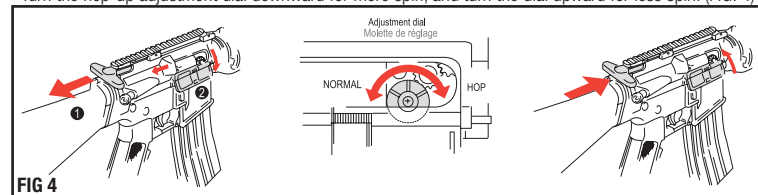

FIG 4
- Turn the hop-up adjustment dial downward for more spin, and turn the dial upward for less spin. (FIG. 4)